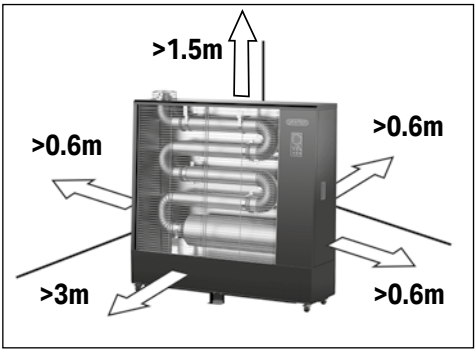

Fig. 3
6.2 Installation Instructions (Fig.3)